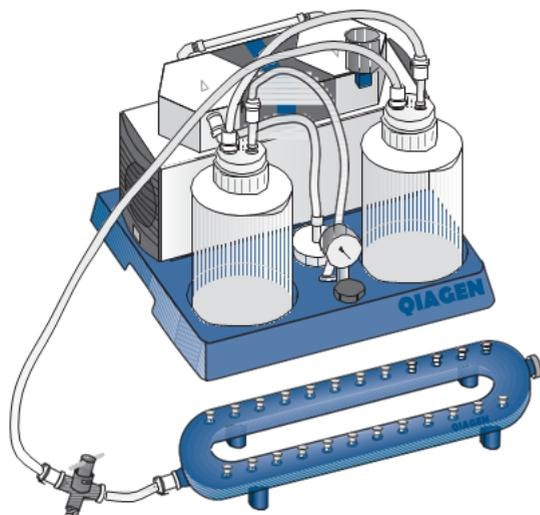

Figure 3: QIAvac 24 Plus, QIAvac Connecting System and Vacuum Pump
discarded after a single use. Due to the large solution volumes used, the QIAvac Connecting System (or similar setup with waste bottles) is required (see Figure 3).
4. Insert a VacConnector into each VacValve (see Figure 3).